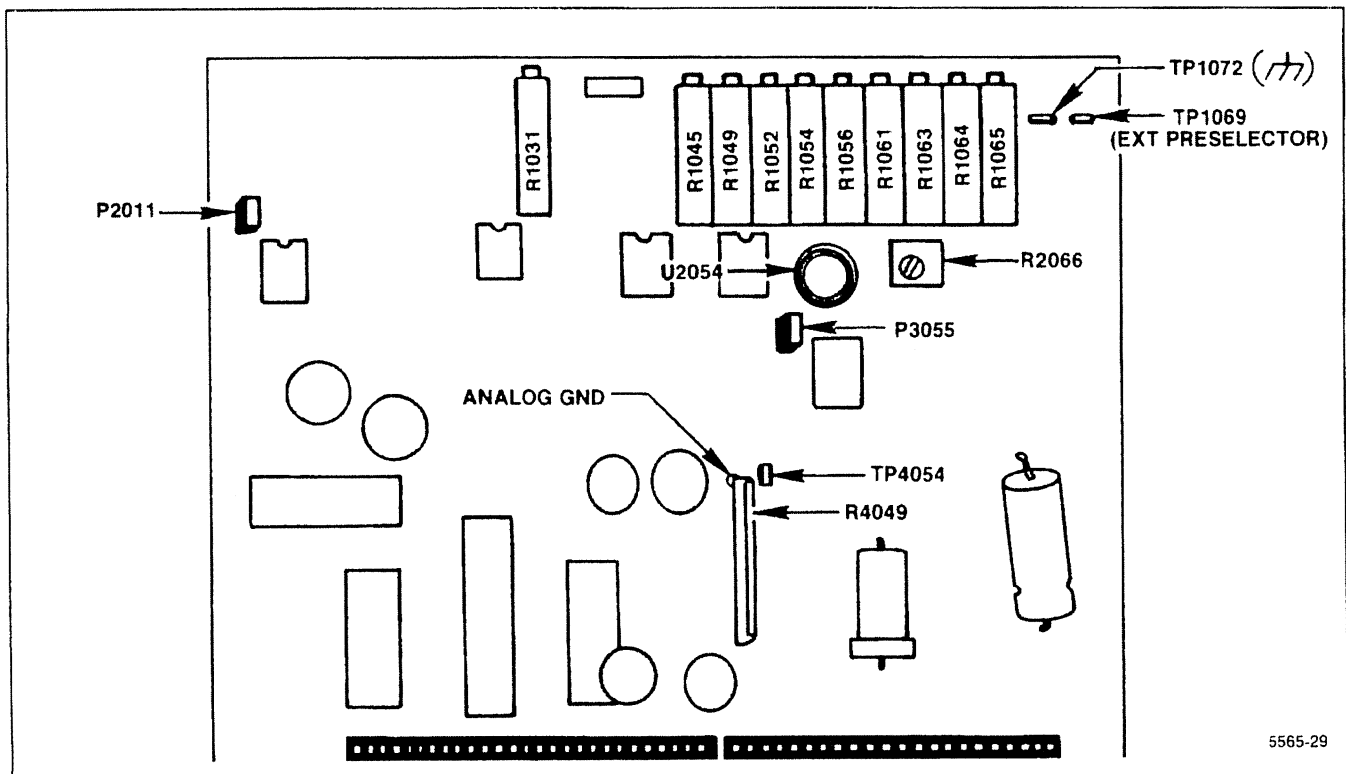

Figure 5-22. Preselector Driver test point and adjustment locations.
e. Set the CENTER FREQUENCY to center the 2.1 GHz marker. Center the Input Offset adjustment R1031 (Figure 5-22), then center the 2.1 GHz marker with the CENTER FREQUENCY control. Ground TP1069 with a jumper strap.
g. Peak the 2.1 GHz signal with the −829 MHz IF Offset R1049 (Figure 5-22).
n. Increase FREQUENCY to the 12 GHz marker, then peak the 12 GHz point with Shaper #1 R1054 adjustment (Figure 5-22).
u. Adjust -829 MHz IF Offset R1049 (Figure 5-22) to peak the 3.5 GHz response.
x. Tune the 19 GHz marker to center screen then peak the 19 GHz signal with Shaper #3 R1061 adjustment (Figure 5-22).